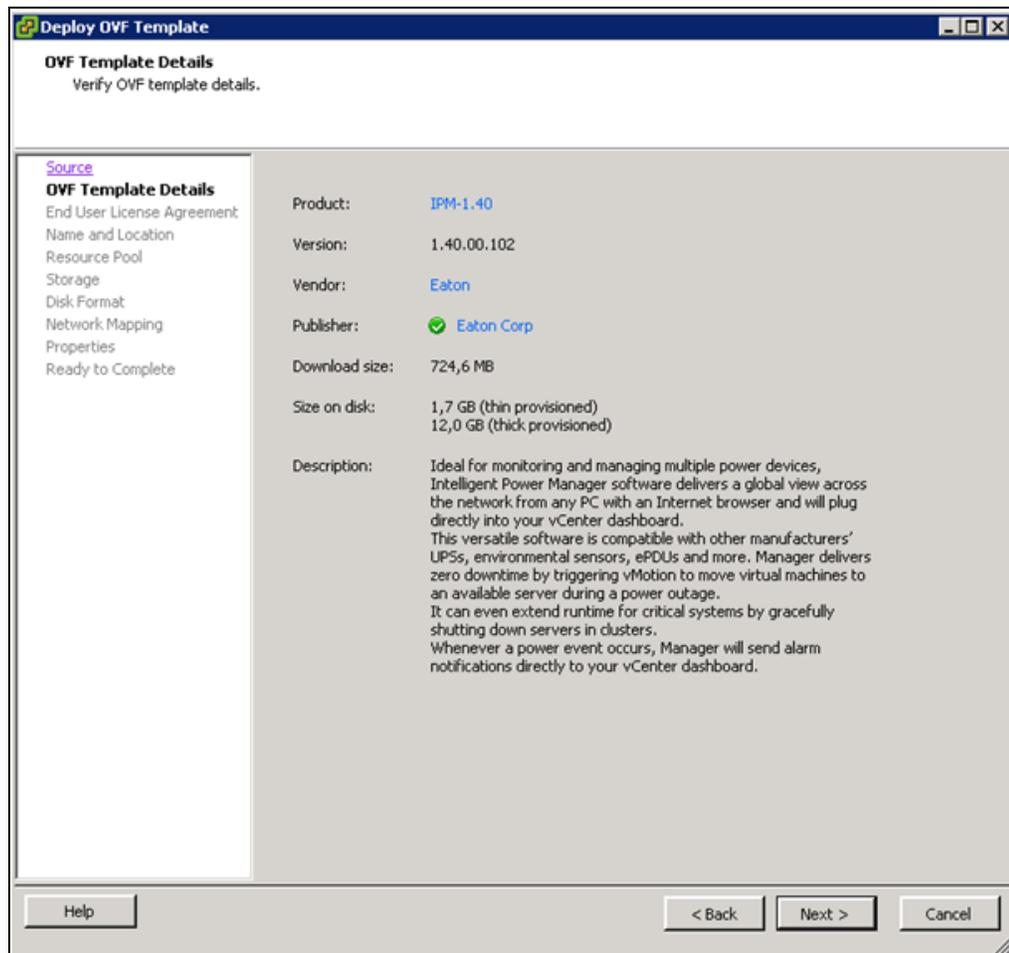

Figure 155. Deploy OVF Template
4. Choose **File > Deploy OVF Template** (see Figure 155).
8. Follow the instructions provided on the Deploy OVF Template (see Figure 155).